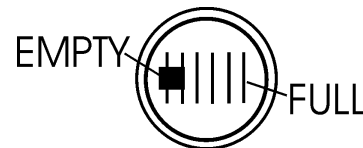

Figure 13. Fuel Gauge
3. Read the fuel gauge located on top of the fuel tank (Figure 13) to determine if the fuel level is low. If fuel is low, replenish with clean unleaded fuel.